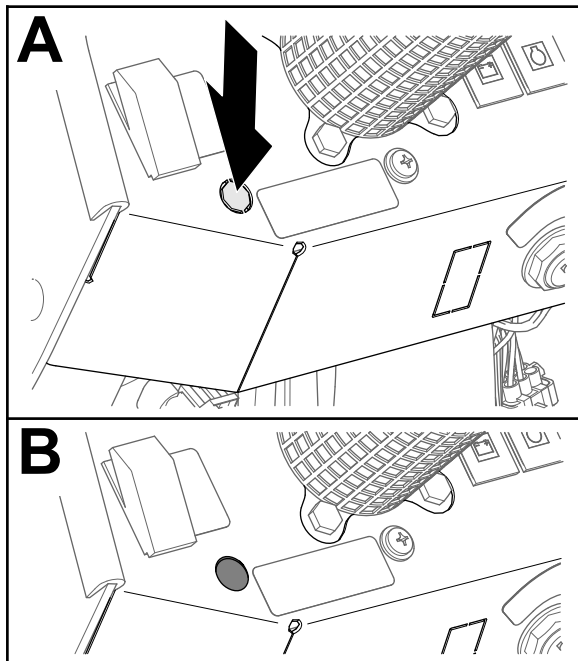

Figure 24
1. Remove the round knockout from the dash panel as shown in Figure 24.